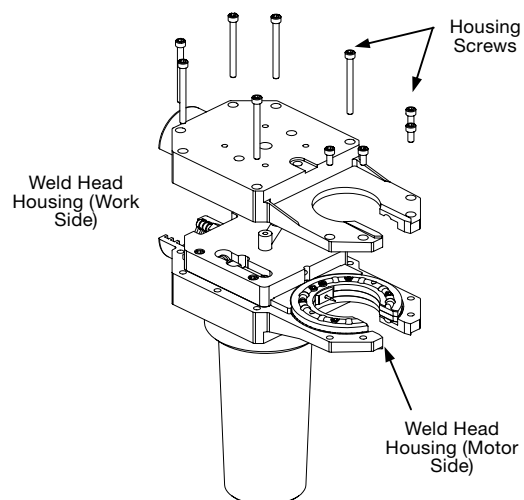

Figure 28 Removing the Locking Ring Half of the Weld Head Housing
5. Remove the weld head housing screws from the housing. Using a slight rocking motion, carefully separate the work side of the weld head housing from the motor side. See Figure 28.